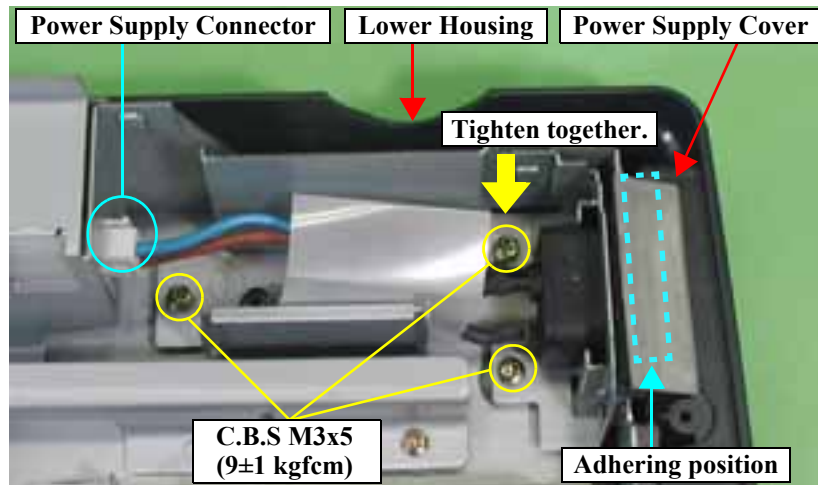

Figure 4-32. Removal of Power Supply Cable Unit (1)
- Adhere the Power Supply Cover to the Lower Housing with a two-sided tape at the position shown in Figure 4-32.
- Tighten together the screws shown in Figure 4-32, which secure the Power Supply Cover and the Power Supply Cable Unit Frame.